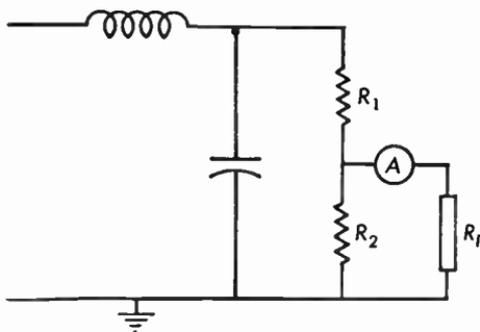

Fig. 9.13 Filter with two-section bleeder and load resistance.
**9.13** The output voltage of the power supply of Figure 9.13,  $E_{d-c} = 200$  volts. The two sections of the bleeder are:  $R_1 = 3000$  ohms and  $R_2 = 2000$  ohms. The reading of the ammeter is 50 milliamperes. What is the equivalent resistance of the load  $R_L$ ?